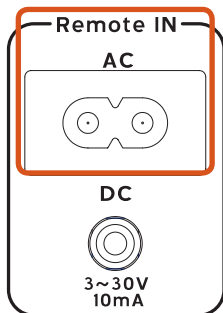

Fig. 3a
- A. Plug the C8 (Fig. 8 - female) end of the included Remote AC Control Cable into the "Remote AC IN" socket located on the back of the Power Console. (Fig. 3a)